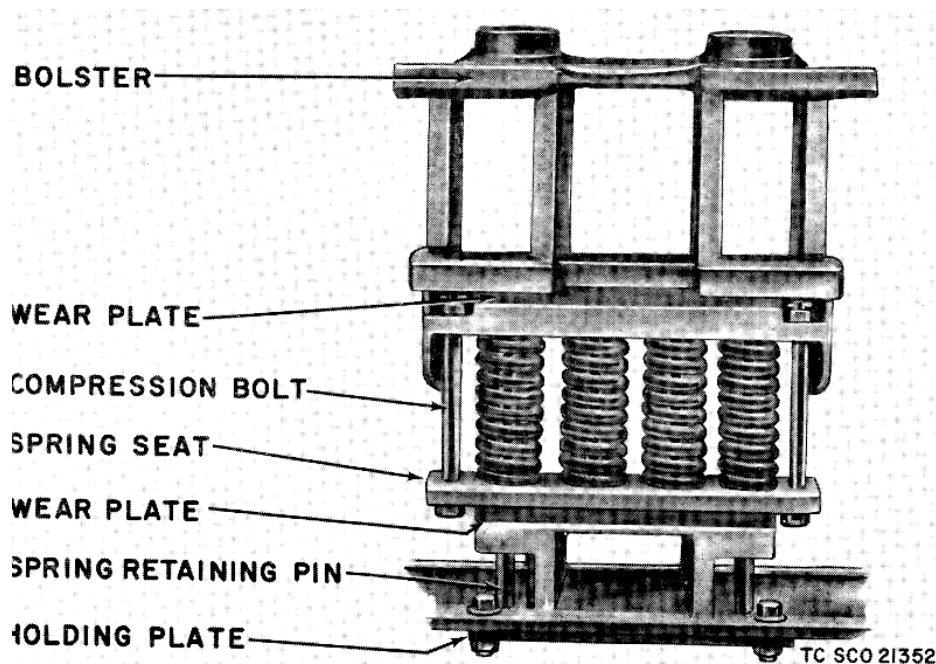

Figure 42. Motor suspension.
- (1) About one-half of the motor weight is carried directly by its axle. The other half of the motor weight is carried by an extension on the motor called the motor nose which is mounted on an extension from the truck frame.
- (2) The motor nose suspension consists of four springs with a bar and wear plate on top and bottom. These wear plates are made from SAE 1045 steel and have good wearing qualities (fig. 42).